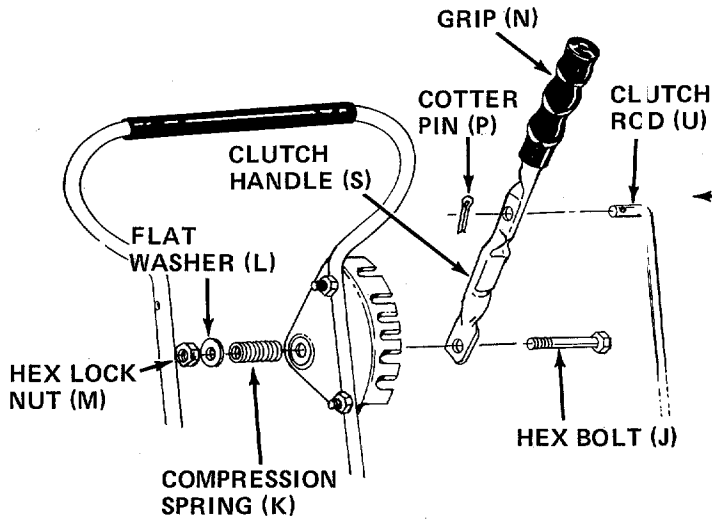
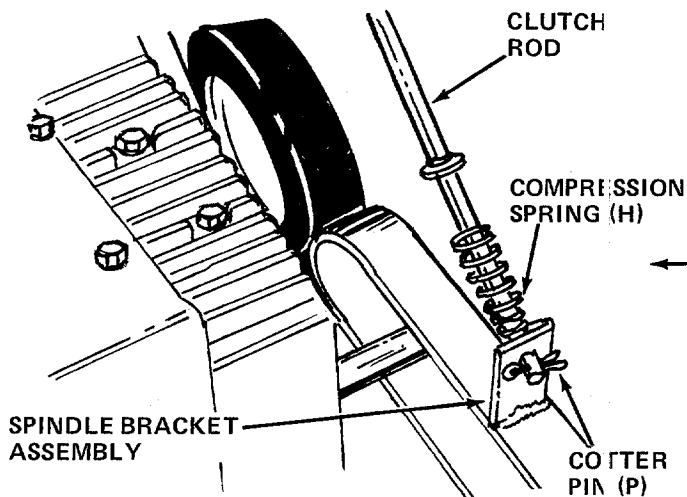

FIGURE 7
FIGURE 8
8. Place hex bolt (J) through bottom hole in clutch handle as shown in figure 7, then through hole in adjustment bracket.
9. Secure hex bolt with compression spring (K), flat washer (L) and hex lock nut (M) on the inside of the adjustment bracket.
10. Place compression spring (O) over straight end of clutch rod (U). Place end of rod in spindle bracket assembly and secure with cotter pin (P). See figure 8.
11. Secure bent end of clutch rod to clutch handle with cotter pin (P). See figure 7.
12. Slip the handle grip (N) on the end of the clutch handle. It will slip on more easily if it is first soaked in warm, soapy water.